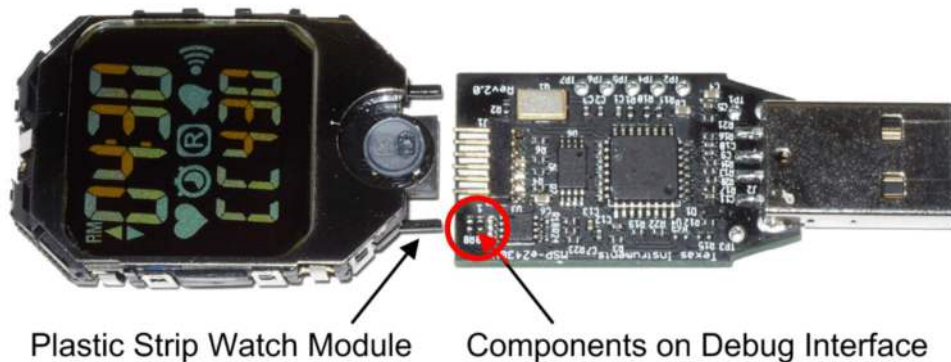

Figure 4-3. eZ430-Chronos Module Attached to eZ430-RF Debug Interface
5. Connect the Chronos module to the emulator. The Chronos module and the USB connector must be on the same side of the PCB as shown in Figure 4-3. Be careful when connecting the Chronos module, because its small plastic strips can get stuck at components on the emulator.